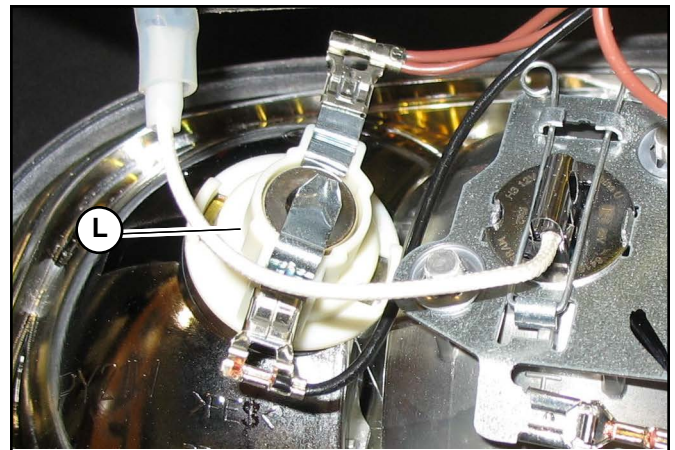

Fig. 247 – Indicator Light Bulb Socket
1. Twist indicator/hazard bulb socket (L, Fig. 247) counter-clockwise and remove it from the headlight housing.
3. Push replacement bulb (F) into socket (L) and twist to secure it. Replacement bulb is PY 21W 12V.
4. Push indicator/hazard bulb socket (L, Fig. 247) back into the headlight housing and twist clockwise until it snaps into place.